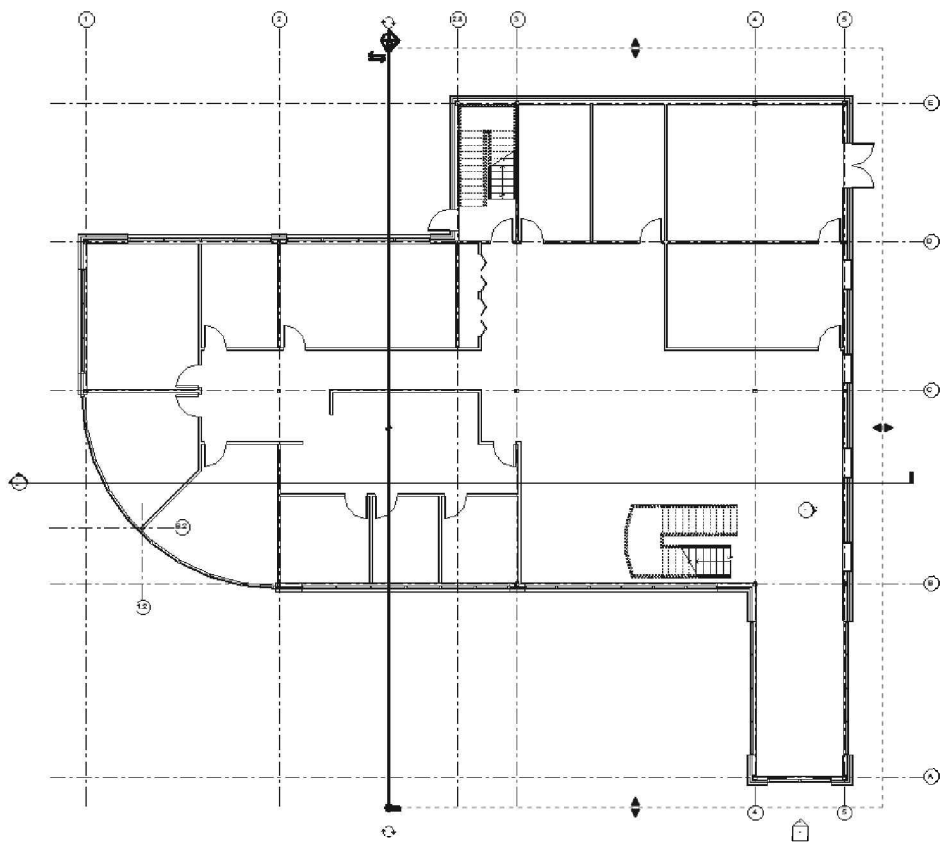

FIGURE 10-3.4 Cross section added looking East
9. Create another **Section** as shown in **Figure 10-3.4**.